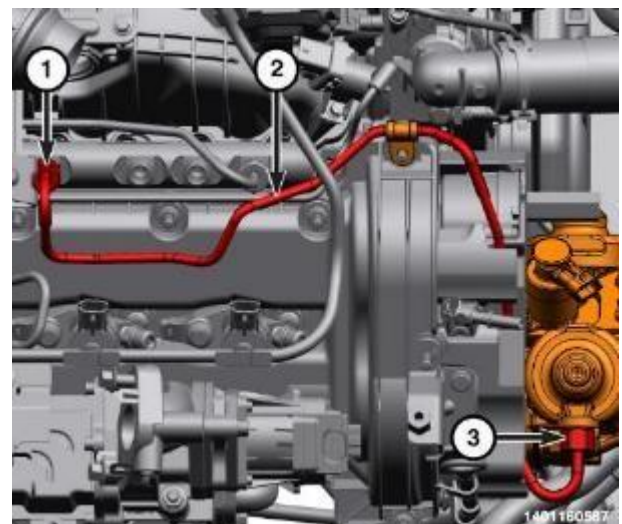

Figure 55 – Right High-Pressure Fuel Tube
99. Install the **NEW** right high-pressure fuel tube (2) and tighten the union nuts (1, 3) to 11 N·m + 75° (8 ft. lbs. + 75°) (Figure 55).